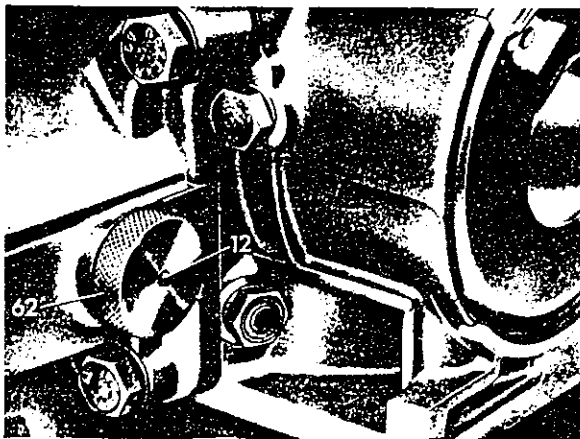

Fig. 41
22 Screw gauge (62) down into housing and tighten lightly. Insert pressure pin (12) and press it in as far as it will go **Fig 41** The pressure pin must be flush with the face of the gauge. For this reason the pressure pins are available in three different lengths.